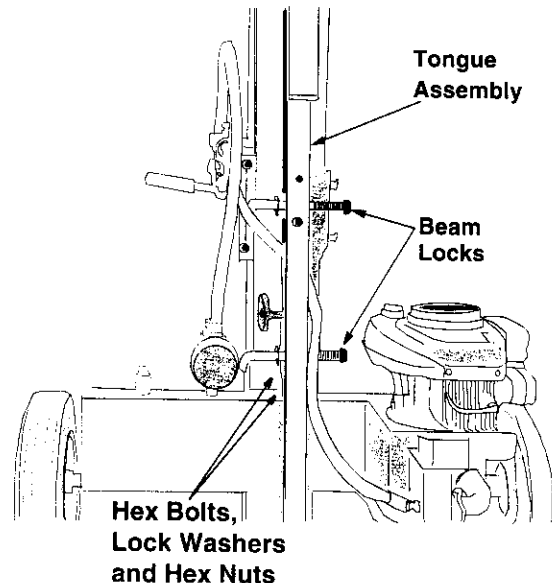

Figure 2
- Remove the two bolts, lock washers and hex nuts that secure the tongue assembly to the beam assembly. See Figure 2.